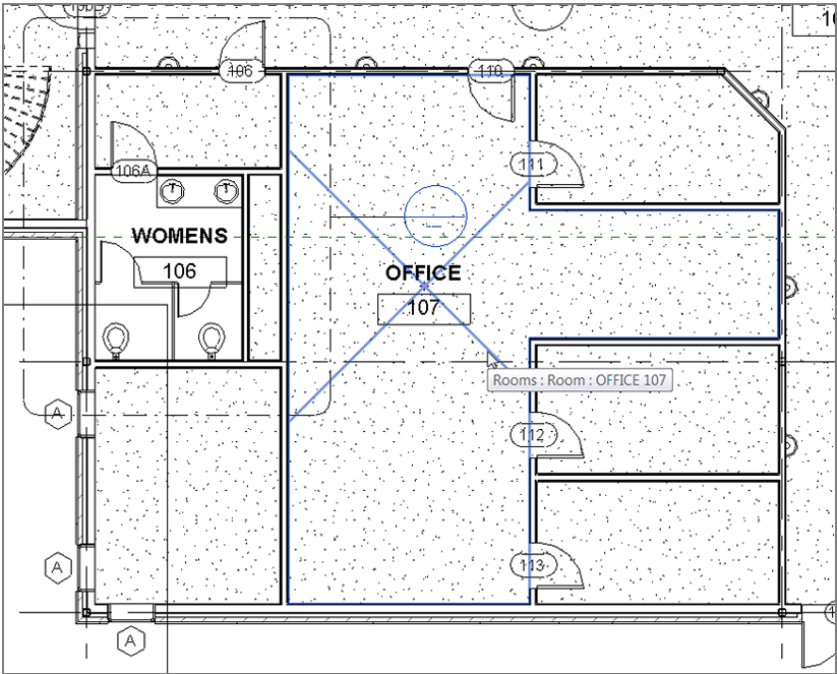

FIGURE 15.4: Renaming the office
3. Pick the large area to the right of the women's lavatory, as shown in Figure 15.4.
4. Rename the room **OFFICE**, and change the number to **107** (see Figure 15.4).